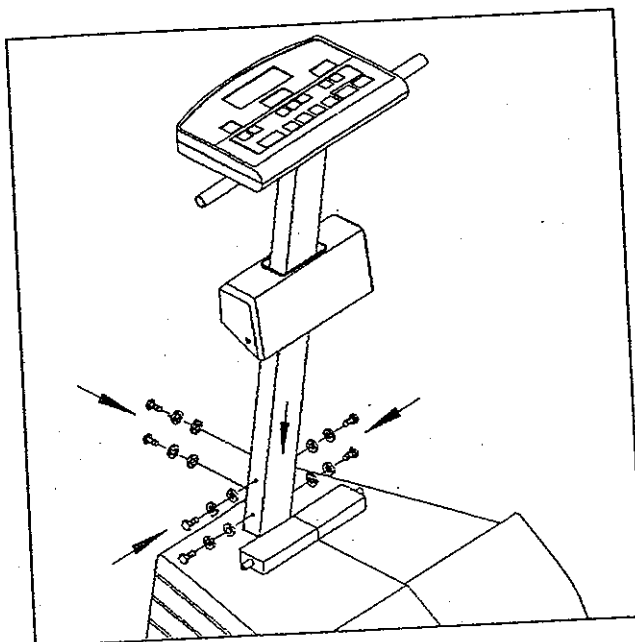

Fig. 8
2. Assemble the front post and tighten all the screws and washers (see Fig. 8).